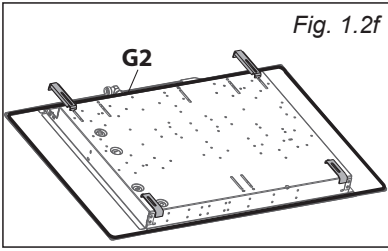

Fig. 1.2f
- Fasten the brackets “F” and “R” to the appropriate socket holes, without tightening the screws “S” for the moment. Make sure that the tabs are mounted correctly, as shown (figs. 1.2h, 1.2i). Rotate the tabs so that the cooktop can be put into the cutout. For the 60 and 90cm wide models, stretch the gasket “G2” along the entire perimeter of the cooktop. (figs. 1.2f, 1.2g).